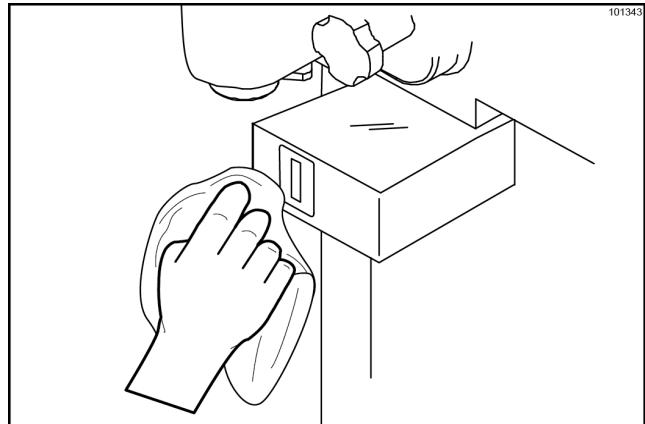

Figure-38
30. Use a clean, damp, sanitized towel to gently wipe the portion control sensor shield and remove any mix buildup. Inspect the sensor shield for damage and replace if necessary. (See Figure-38.)